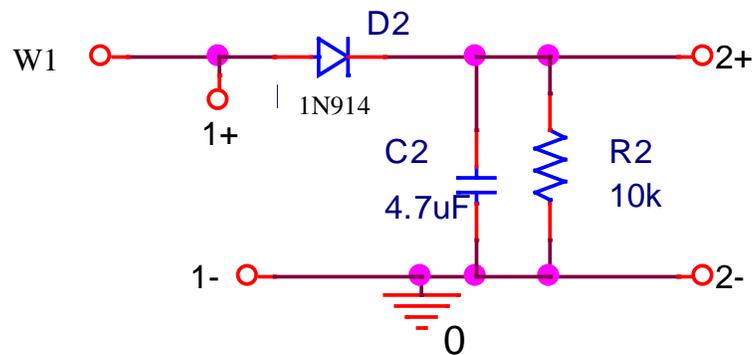

Figure B-8.
- **B.6** Repeat the procedure above with a 4.7uF capacitor in parallel with the resistor R, as shown in Figure B-8. If your kit doesn't include a 4.7uF capacitor, ask the instructor or TA.